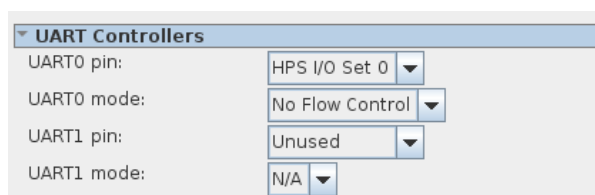

Figure 8-11. UART configuration
- Configure “UART0 pin” to “HPS I/O Set 0” and “UART0 mode” to “No Flow Control”, as shown in Figure 8-11.